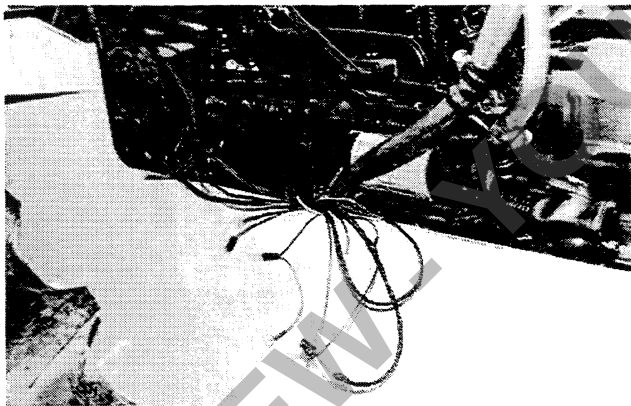

Figure 2:
4. Disconnect the engine and transmission wire harnesses and let them hang outside the frame (Fig. 2). Individual wires must be removed from the engine temperature and pressure senders, fuel solenoid, refrigerant compressor, tachometer generator and start aid coil (if so equipped).